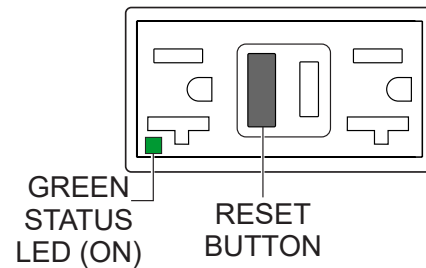

Figure 76. GFCI Receptacle (ON/Restore)
5. Press the **RESET** button (Figure 76) to restore power to the GFCI receptacle and verify that the status LED is **ON (GREEN)**.